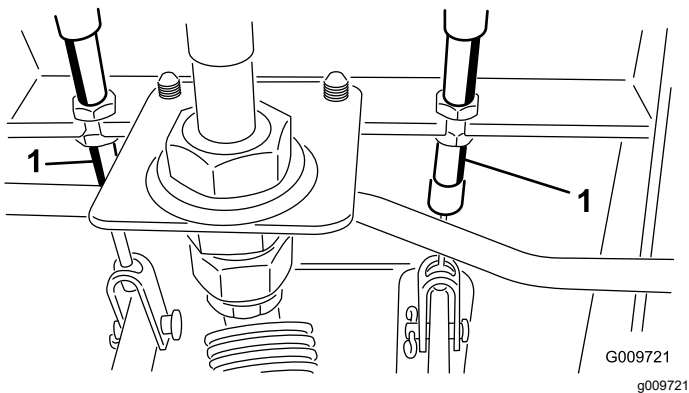

Figure 81
- A. Loosen the front nut on the threaded end of the brake cable (Figure 81).